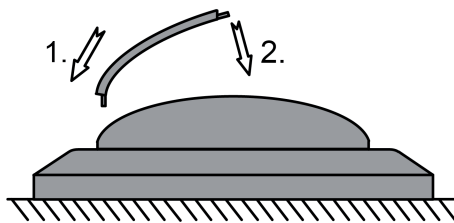

Figure 12: Mounting of the panel to limit the detection range (view from above)
- Mounting the panel in the left or right sub-area of the sensor window (Figure 12).